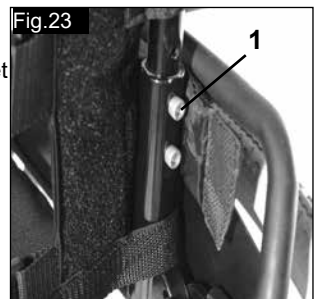

Fig.23
The height of the backrest can be set to 2 or 3 different positions (depending on the model) (41 cm, 43.5 cm and 46 cm). Release and remove the bolts (1)+(2), and push the backrest tube to the desired position. Tighten up the bolts again (Fig. 23).